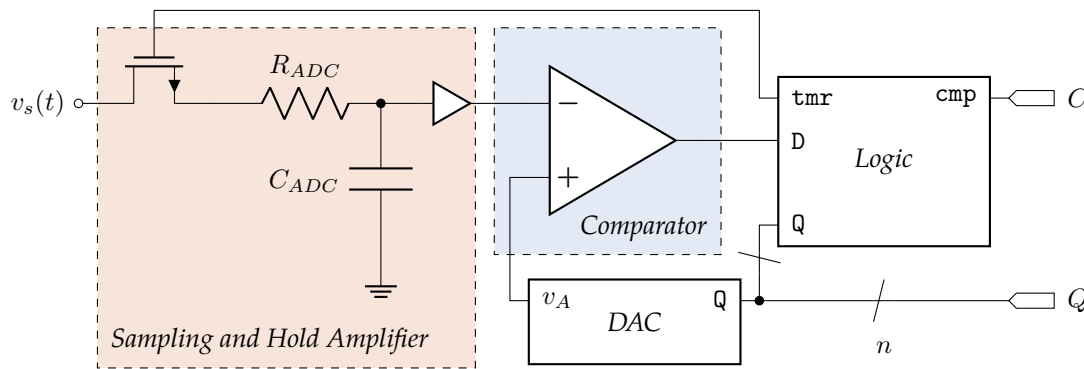

Figure 7: A rough schematic of a n -bit successive-approximation ADC.
A successive-approximation converter is a robust circuit that does not require precision components, and that has a fixed conversion time regardless of signal magnitude.⁵ A schematic of this device is shown in Figure 7. This circuit implements a *binary search* for the correct value that digitizes $v_s(t)$, by comparing the current estimate of that value (Q_7, Q_6, \dots, Q_0) to $v_s(t)$ using a DAC.
- The first stage of this circuit allows the signal $v_s(t)$ to charge a capacitor. This is the “sampling and hold amplifier”. A timer control signal (tmr in Figure 7) is used to turn on and off the transistor switch.